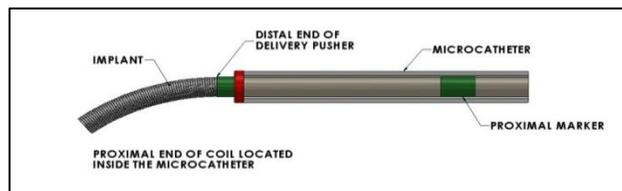

Figure 4 – Position of Marker Bands for Detachment
27. Advance the coil into the desired site until the radiopaque marker on the delivery pusher is aligned or slightly distal of microcatheter distal tip RO marker, positioning the detachment zone just outside the microcatheter tip. See Figure 4.